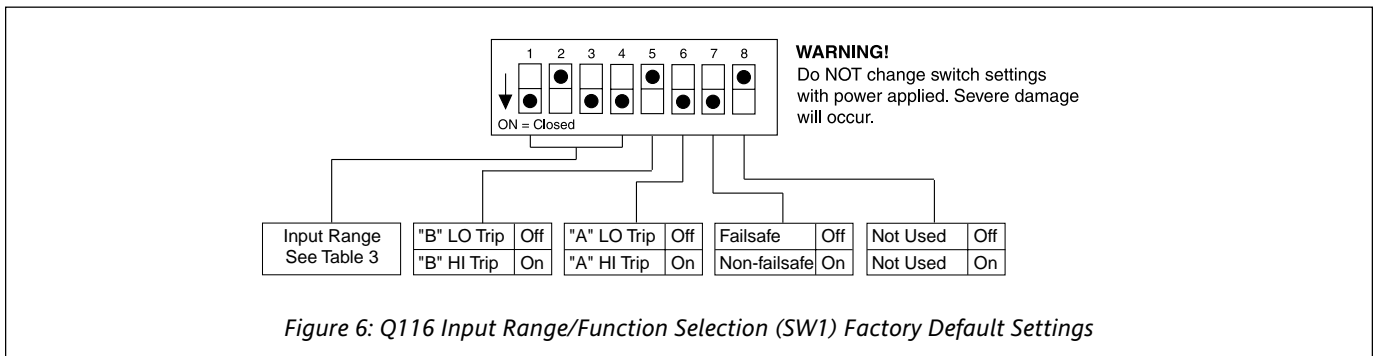

Figure 6: Q116 Input Range/Function Selection (SW1) Factory Default Settings
3. Set position 5 and 6 of input range switch "SW1" to ON (Closed) for a HI trip setpoint or OFF (Open) for a LO trip setpoint (Figure 6 & Table 2).